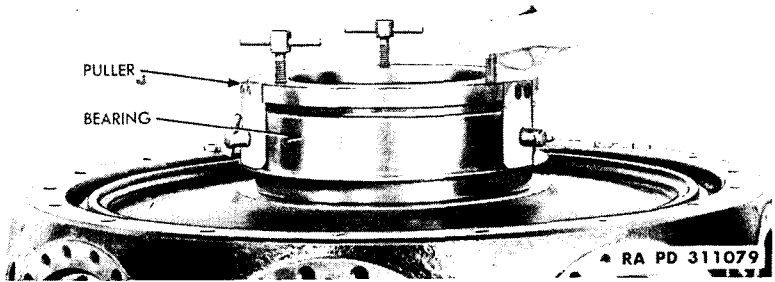

Figure 36 — Removing Cam Bearing, Using Puller 5A2305
(1) **CAM BEARING.** If replacement of cam bearing is found necessary, remove old bearing with puller (5A2305) (fig. 36). Install cam bearing ring onto crankcase main front section. Heat cam bearing ring in an oil bath at a temperature of 300°F. for 15 minutes. Coat cam bearing ring support on crankcase section with engine oil. Place cam bearing spacer on crankcase main front section locating $\frac{5}{16}$ inch diameter hole in spacer over dowel pins in crankcase front section. Place cam bearing ring over spacer, engaging bearing splines correctly with the splines on outside diameter of spacer. Press bearing down so that flange bears tightly against crankcase. Check bottoming of bearing ring on crankcase by attempting to insert a 0.0015 feeler gage between these parts. Remove spacer after bearing ring has cooled.